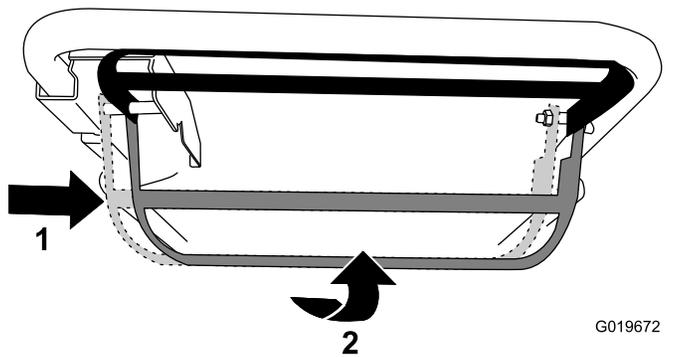

Figure 19
- To operate the self-propel drive and engage the blade:** Move the blade-control bar all the way to the right and raise it to the handle (Figure 19).